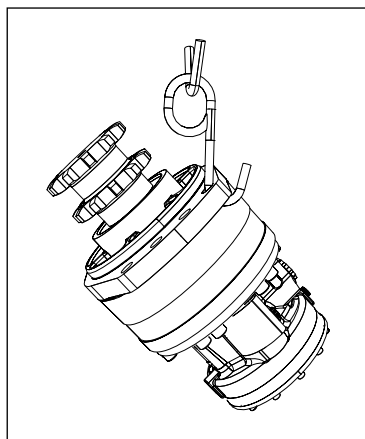

Fig. 15: Hoisting a motor with a hook
- ▶ Insert the hook into one of the mounting holes of the flange, the motor may then be lifted as indicated in Fig. 15.